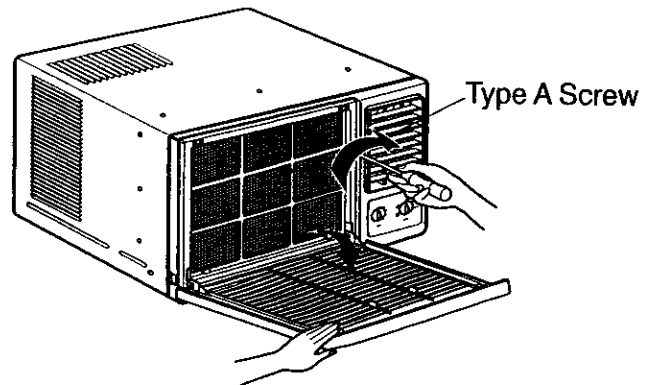

Figure 21
5. Re-install the component by referring to the removal procedure, above. (See Figure 21)